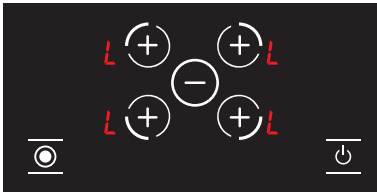

Figure 22
1. The symbol **L** is displayed on all hotplates when the hob is switched on and the child safety lock is activated. (See Fig. 22.) The marks **L** and **H** are displayed alternately in case a hot plate is hot **H**. You can only switch the hob on or off using the button **⏻**.